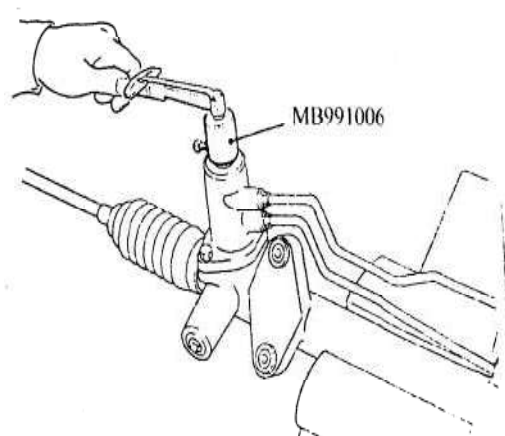

Fig 17-1
- (5) After checking fourth item ,If the play exceeds the standard value,remove steering gear box and check total pinion torque.(Refer to fig 17-1).